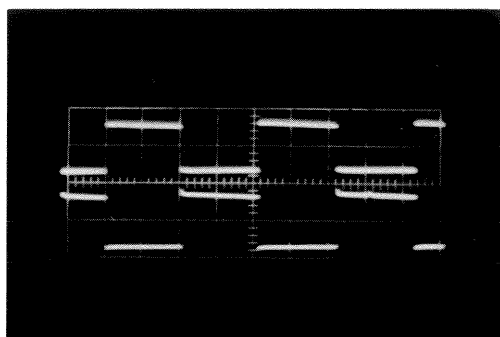

**Figure S-8. Waveforms Obtained with H. FREQ. COMP Control Minimum (Note Peak at 9 mc), and Maximum. (Frequency Markers Range from 0 to 12 mc, Left to Right)**
6. Adjust peaking coil (above and to the left of H. FREQ. COMP control) to obtain a peak at 9 mc (figure S-8).
7. Check frequency response with H. FREQ. COMP control at maximum and minimum, and compare with figure S-8.